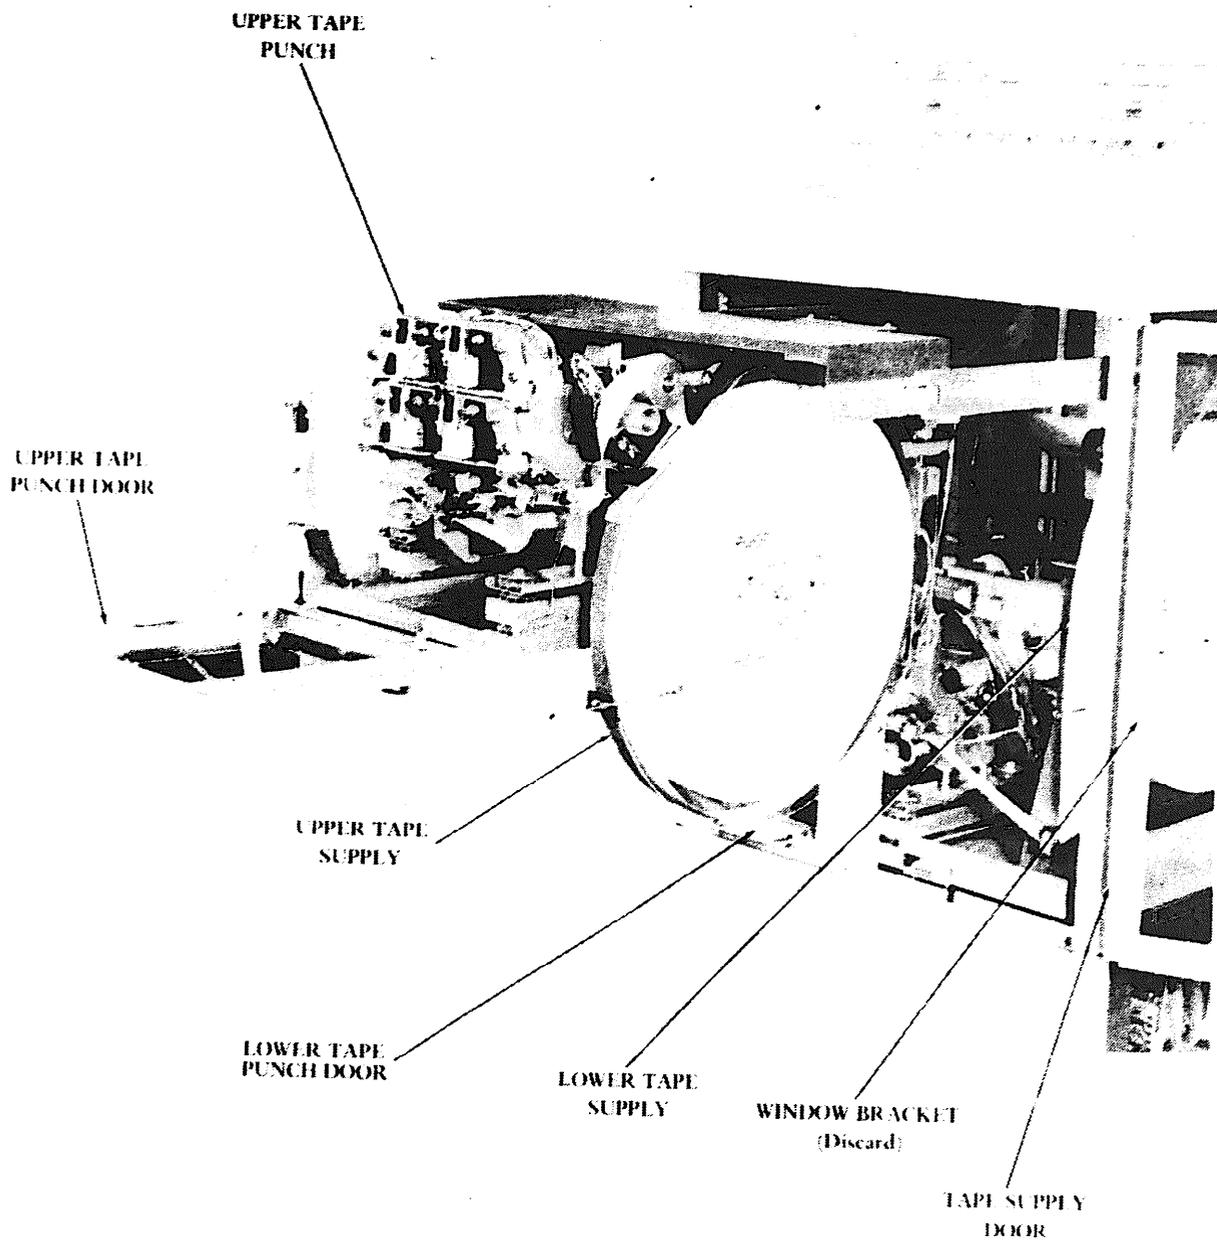

Figure 2 Tape Punch and Punch and Tape Supply Doors
3.01 Unlatch upper tape punch door and pivot down to its open position (Figure 2). Remove all upper window mounting hardware including door handle and window tape guide hardware. Leave plastic window in place, lay TP333327 screen over window aligning screw holes and tape exit openings. Place the TP333311 frame with flange up over the screen, replace handle, window tape guide hardware with ground strap, and upper window mounting hardware. Place tape punch door in its latched position.